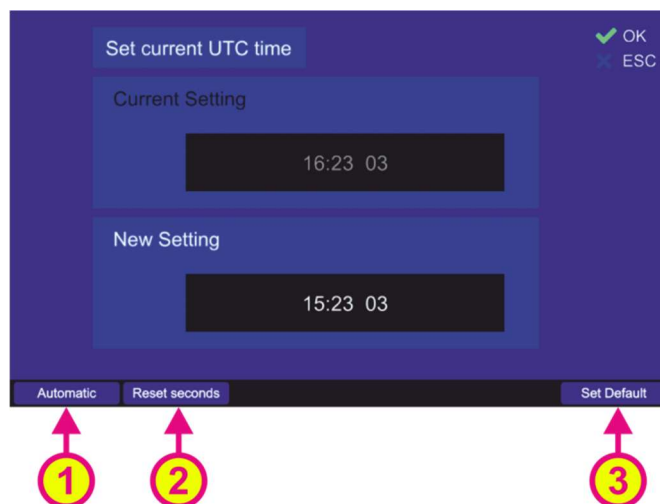

Figure 135. Changing the UTC time
Following dialog appears (s. Figure 135).
- Use the "Automatic" hotkey (s. Figure 135, position 1) to adopt the GPS time value (only if GPS data is available).
- By default the current seconds value is inherited to the new setting. To reset the seconds value to "00", press the "Reset seconds" hotkey (s. Figure 135, position 2).
- Use the "Set Default" hotkey (s. Figure 135, position 3) to reset the value to the default value (internal time of the DCU real time clock).